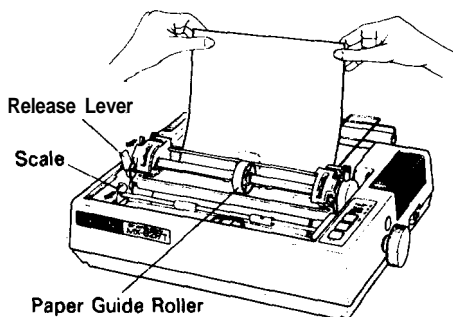

Fig. 39 Loading of Cut Paper Sheet
2. Unlock the release lever. (See Fig. 39)
3. Pull the scale toward the front of the Printer to detach the scale from the platen. (See Fig. 39)